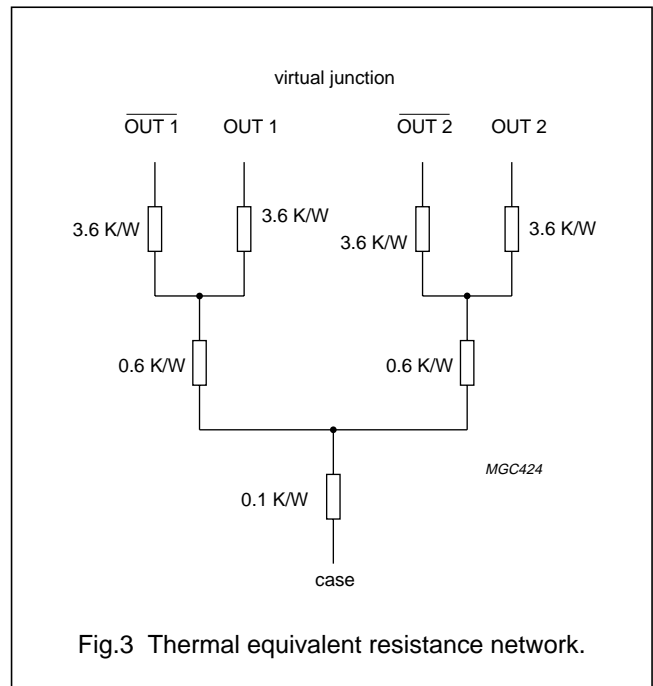

Fig.3 Thermal equivalent resistance network.
- The value of Rth(c-h) depends on the application (see Fig.3).